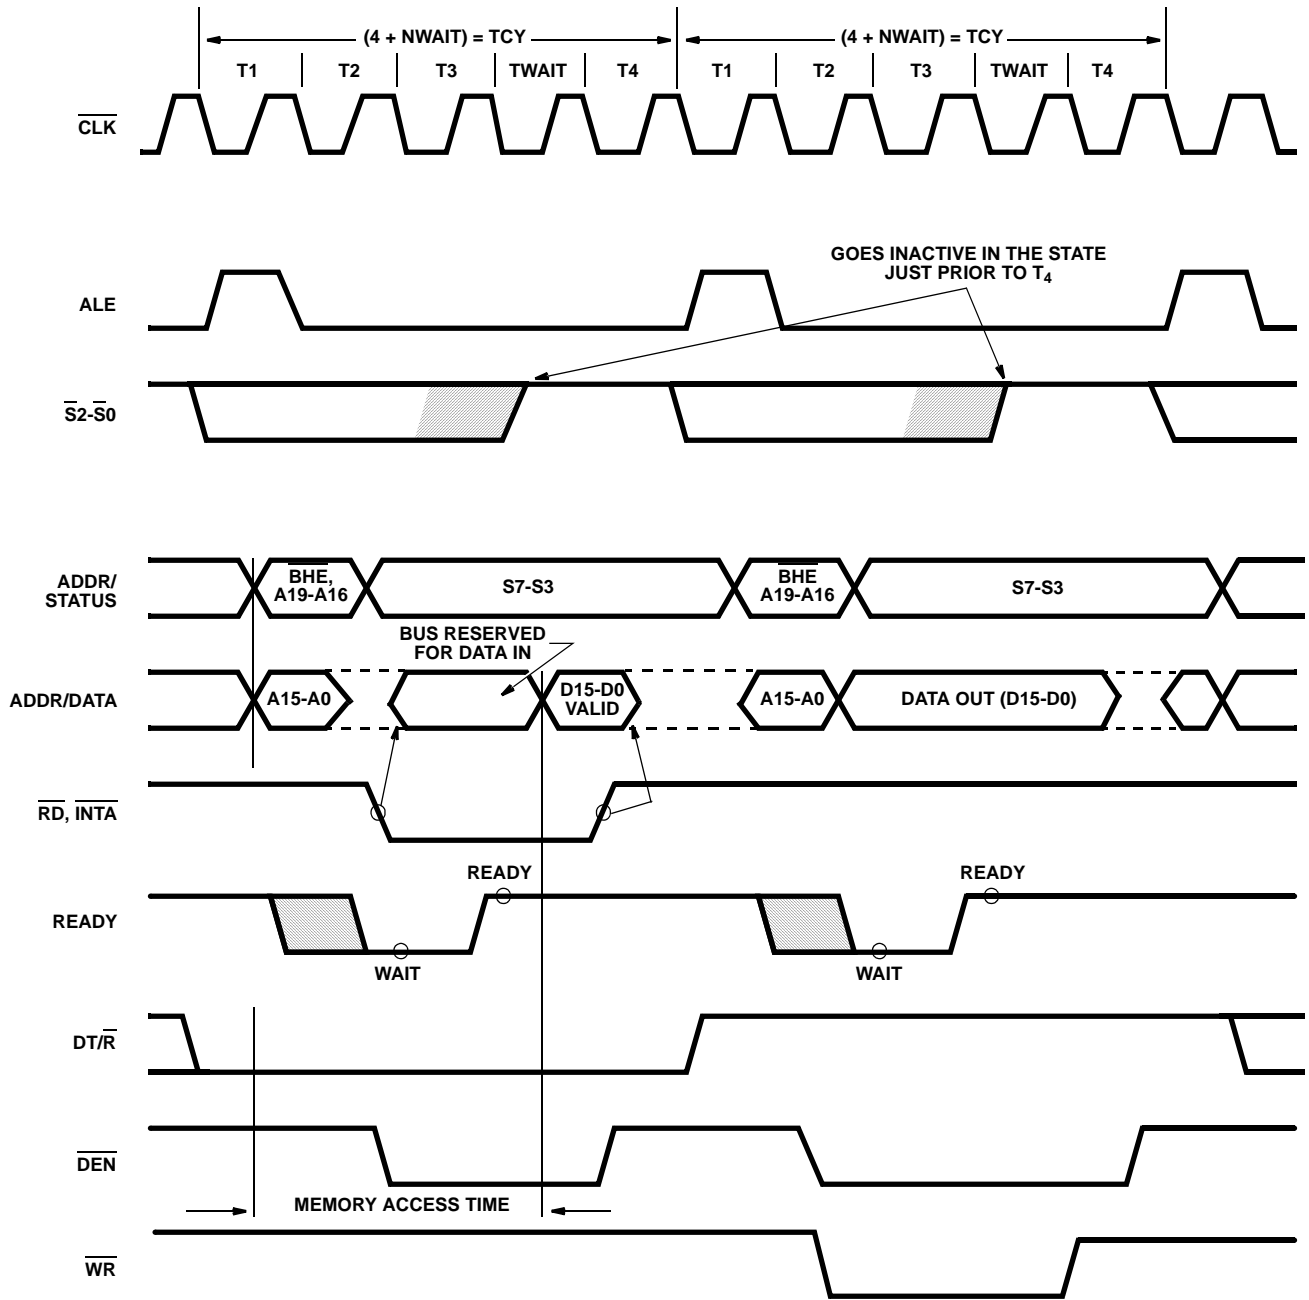
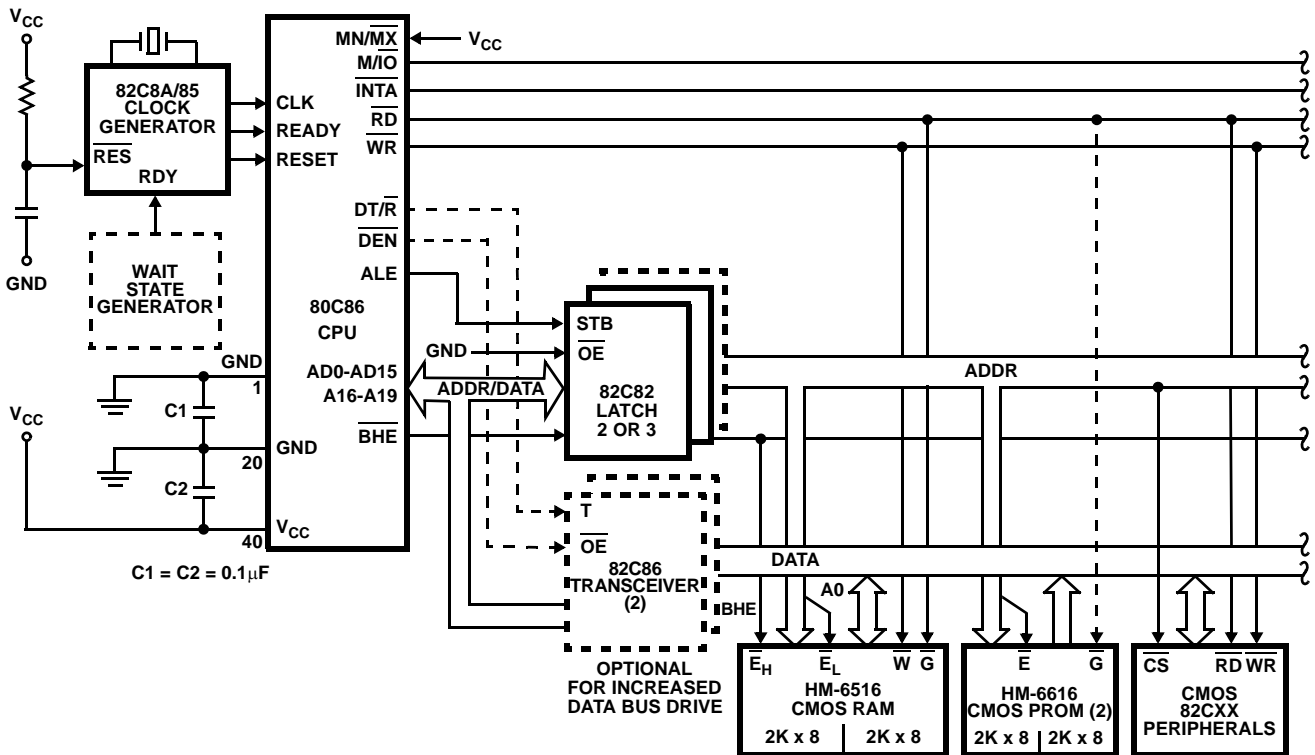

FIGURE 3. BASIC SYSTEM TIMING
FIGURE 6A. MINIMUM MODE 80C86 TYPICAL CONFIGURATION
The demultiplexed mode requires two 82C82 latches (for 64K addressability) or three 82C82 latches (for a full megabyte of addressing). An 82C86 or 82C87 transceiver can also be used if data bus buffering is required. (See Figure 6A.) The
Each processor bus cycle consists of at least four CLK cycles. These are referred to as T1, T2, T3 and T4 (see Figure 3). The address is emitted from the processor during T1 and data transfer occurs on the bus during T3 and T4. T2 is used primarily for changing the direction of the bus during read operations. In the event that a "NOT READY" indication is given by the addressed device, "Wait" states (TW) are inserted between T3 and T4. Each inserted wait state is the same duration as a CLK cycle. Periods can occur between 80C86 driven bus cycles. These are referred to as idle" states (Ti) or inactive CLK cycles. The processor uses these cycles for internal housekeeping and processing.
Typical system configurations for the processor operating in minimum mode and in maximum mode are shown in Figures 6A and 6B, respectively. In minimum mode, the MN/MX pin is strapped to VCC and the processor emits bus control signals (e.g.  $\overline{\text{RD}}$ ,  $\overline{\text{WR}}$ , etc.) directly. In maximum mode, the MN/MX pin is strapped to GND and the processor emits coded status information which the 82C88 bus controller uses to generate MULTIBUS compatible bus control signals. Figure 3 shows the signal timing relationships.